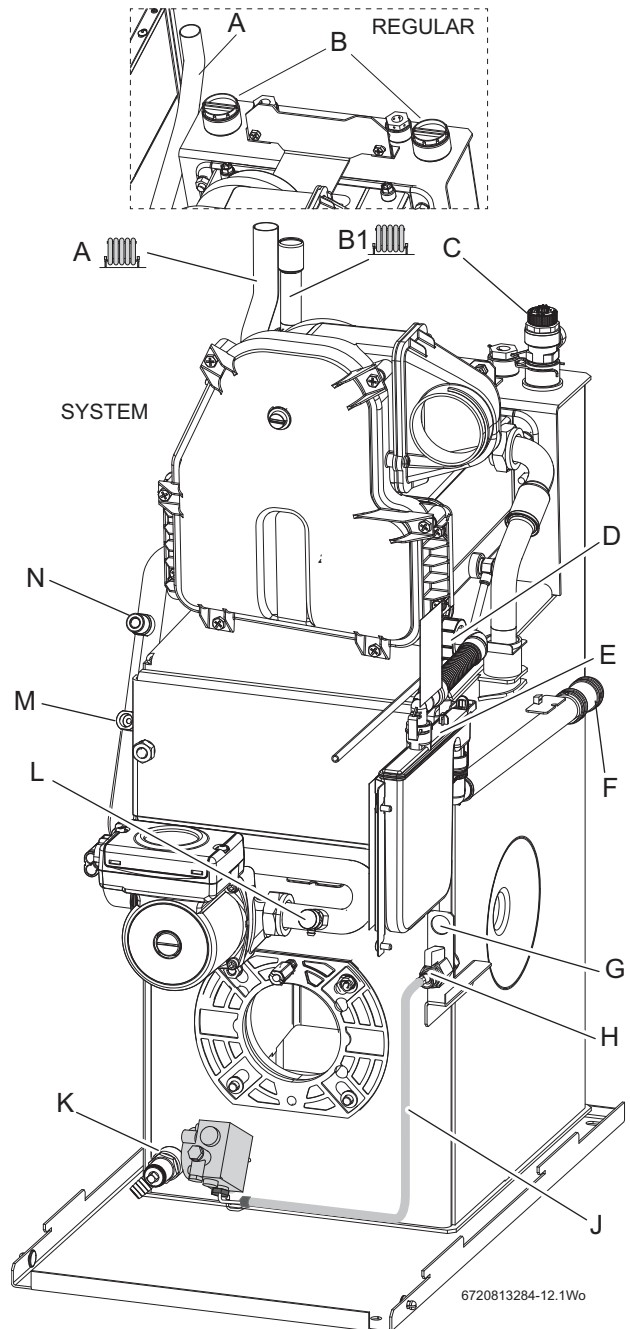

Fig. 46 Pipework connections
- ▶ Refer to figure 46 and ensure that the isolating valve (H) is closed and route the oil supply pipe along the right side of the boiler and connect to the isolating valve (H).
- ▶ Connect the 21.5mm polypropylene pipe (not supplied) to the condensate waste pipe flexible push fit connector (F) and terminate to waste. Do not use any solvents, adhesives or lubricants when pushing the pipe into the flexible push fit connector (F).
- ▶ Fill the condensate trap with 500ml of water via the condensate sump (P).
- ▶ Refit flue manifold access cover (R) and secure with screws (S).
2. Connect the flexible oil pipe return hose [3] (not supplied) to the oil pump and return pipe fixing and tighten to secure (for routing see figure 46).